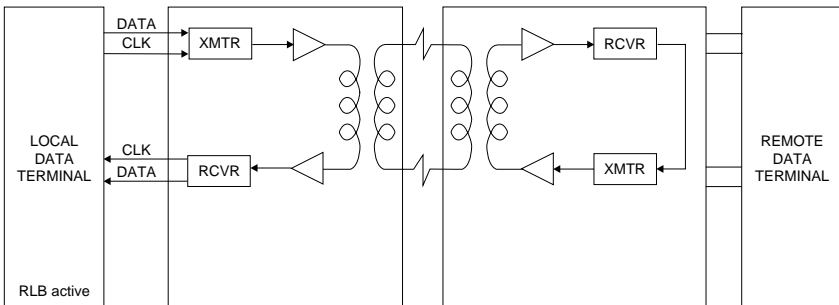

Fig. 5-2. Remote digital loopback.
1. Push the local unit's REM (Remote Digital Loopback) pushbutton or (if the unit's RLB jumper is set to EN) raise the RL signal from the DTE to the unit. The TEST LED should light on both units as the local unit sends a remote-loopback command to the remote unit and the remote unit internally connects its receiver input to its transmitter output (see Figure 5-2 below).